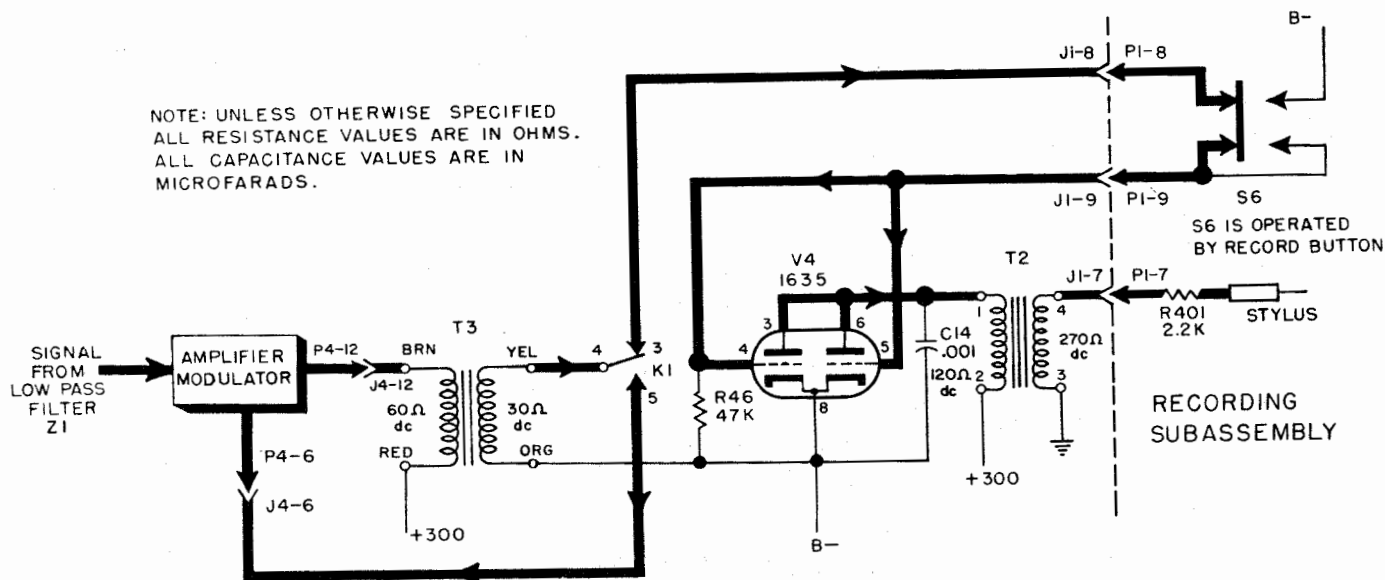

Figure 2-10. Schematic Diagram of Print Amplifier
(2) PRINT AMPLIFIER.—(See *schematic, figure 2-10.*) The plate of the print driver in the modulator-amplifier subassembly connects to the print driver transformer, T3, on the amplifier-power supply chassis through J4-pin 12. The secondary of transformer T3 connects to a normally closed contact of relay K1. With the relay deenergized, the print signal is applied to the grid of the print amplifier, V4, when the RECORD button on the recording mechanism assembly is operated. Tube V4, a duo-triode 1635, has both sections connected in parallel to provide power output as a zero biased Class B amplifier. The output is transformer coupled through T2 to the stylus needle in the recording mechanism.